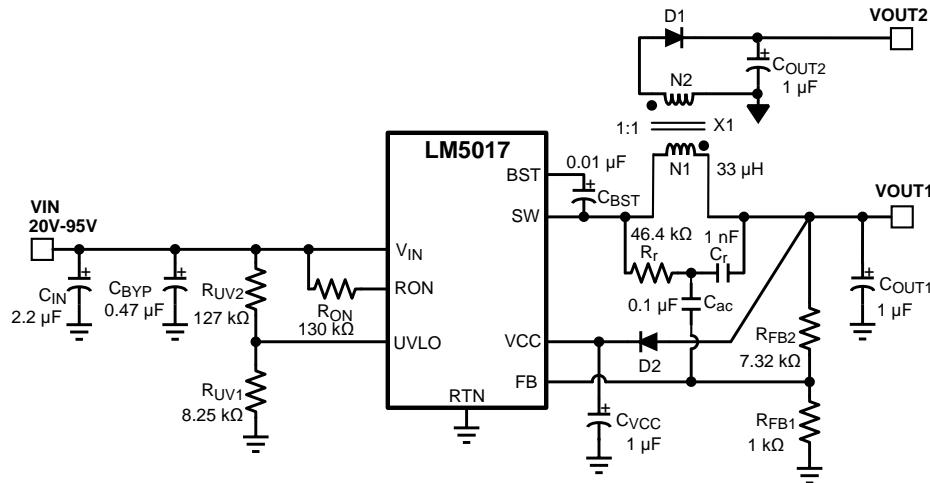

Figure 17. Typical Isolated Application Schematic
An isolated supply using LM5017 is shown in Figure 17. Inductor (L) in a typical buck circuit is replaced with a coupled inductor (X1). A diode (D1) is used to rectify the voltage on a secondary output. The nominal voltage at the secondary output (V_{OUT2}) is given by Equation 20.